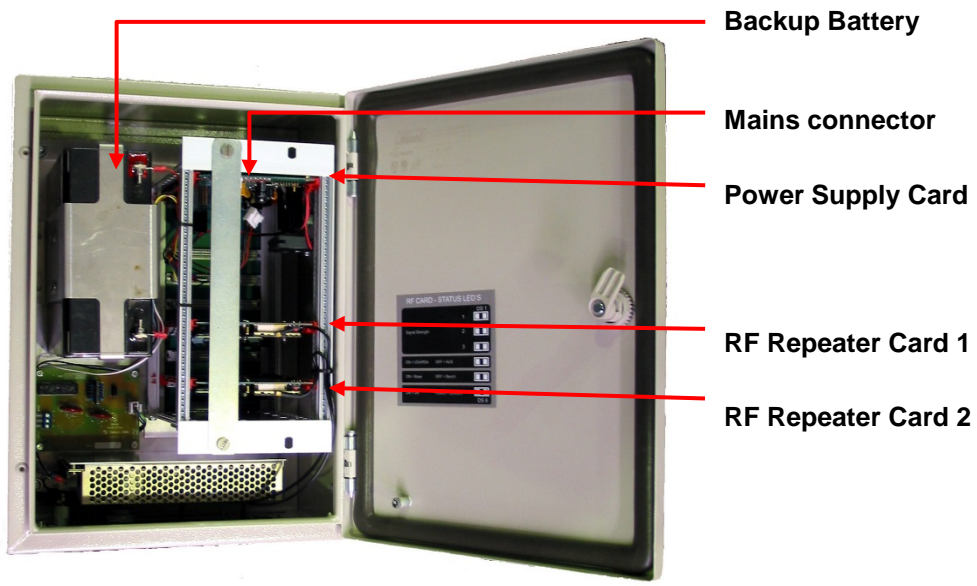

Figure 2: Repeater components
- Figure 2: Repeater components 10